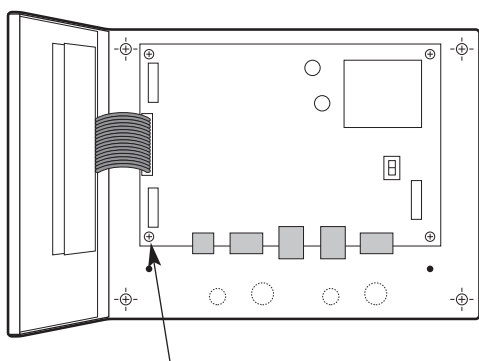

Figure 1 Remove all four screws attaching motherboard
- Unscrew the four Phillips (cross-head) screws holding the motherboard to the enclosure (see Fig 1). Remove the motherboard, and put it out of harm's way.